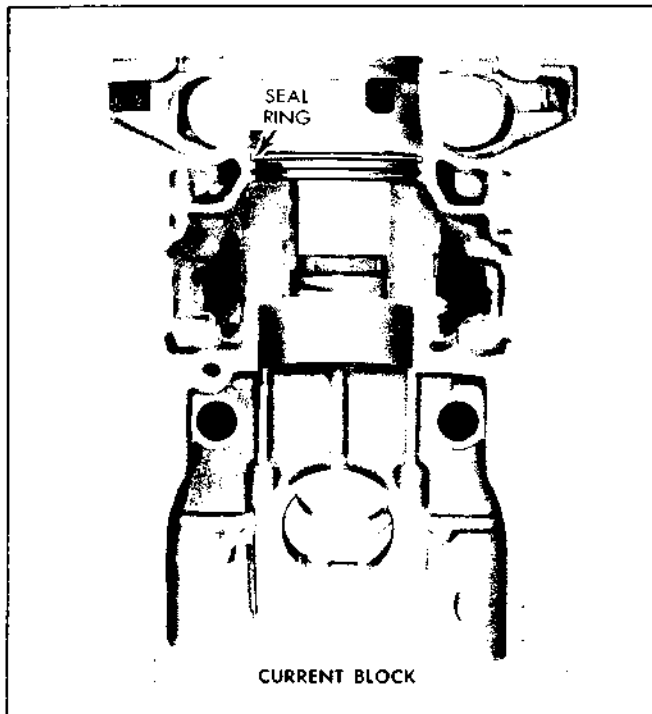

Fig. 11 - Location of Block Bore Seal Ring Groove
a. Make sure the seal ring grooves (Fig. 11) are thoroughly clean. Then inspect the grooves and lands for evidence of pitting and erosion. Two grooves are provided above the air inlet ports of each cylinder bore in the current block. The single groove formerly below the air inlet ports has been eliminated. However, a cylinder liner seal ring is required in the upper groove only. The lower groove (on the current block) is provided for the seal ring if inspection reveals extensive pitting or erosion along the upper land or inner surface of the upper groove. If both grooves are eroded to the extent that sealing is affected, then the block must be replaced.